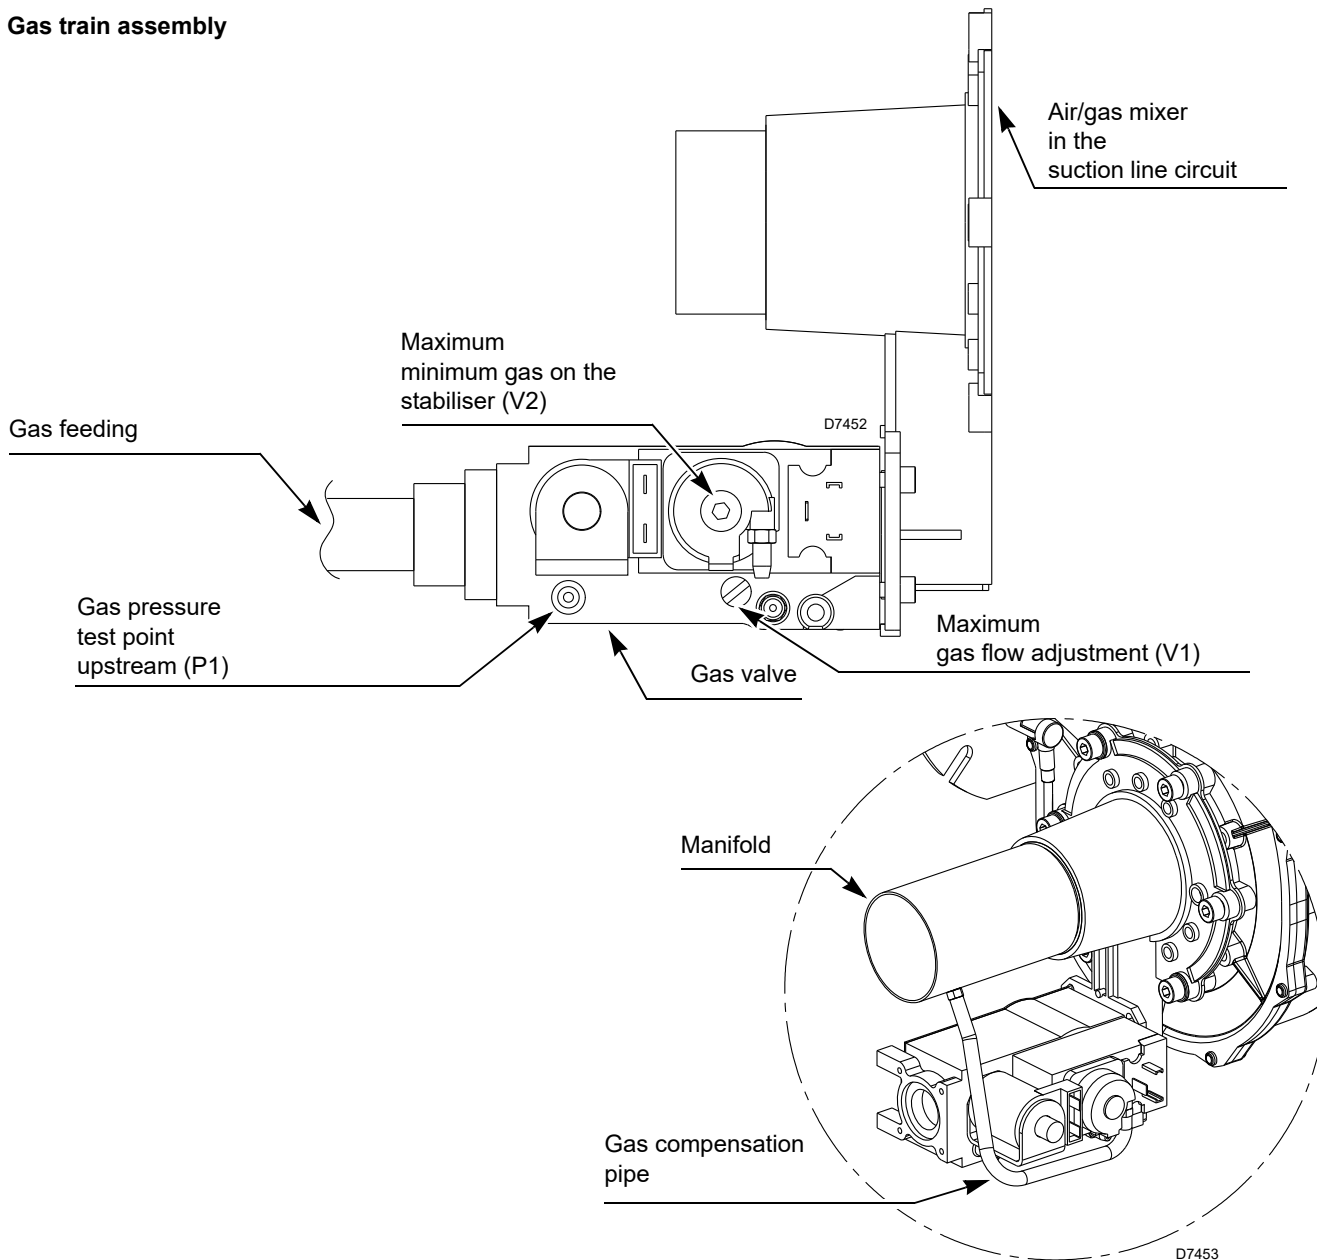

Fig. 13
Air/gas mixer Fig. 13
- release the air from the gas piping using the screw on the gas pressure test point (P1) (Fig. 13 on page 21).